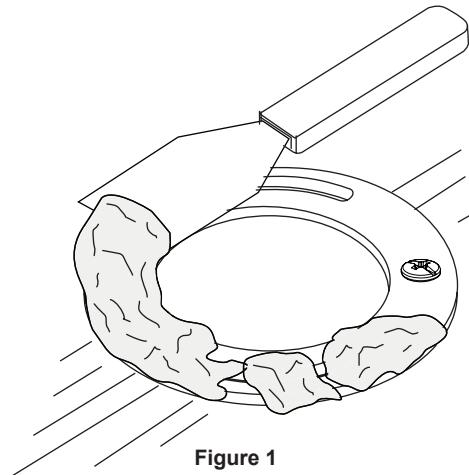

Figure 1
- ① Turn off the water supply and then flush the toilet to empty the tank. Use a sponge and bucket to pick up any water left in the bowl or tank.
- ② Disconnect the water supply line from the toilet tank.
- ③ Disassemble the tank from the bowl by removing the lock nuts from the underside of the tank.
- ④ Pry off bolt caps and then remove the nuts that secure the toilet to the floor. Use a rocking motion to remove the old toilet.
- ⑤ Scrape the old wax gasket from the floor flange (Figure 1).